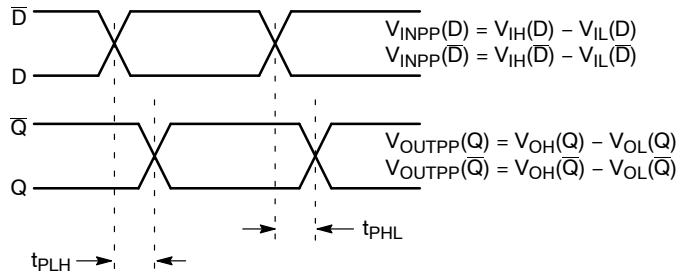

Figure 9. AC Reference Measurement
2. See Figure 9 $t_{skew} = |t_{PLH} - t_{PHL}|$ for a nominal 50% differential clock input waveform. Skew is measured between outputs under identical transitions and conditions @ 1 GHz.